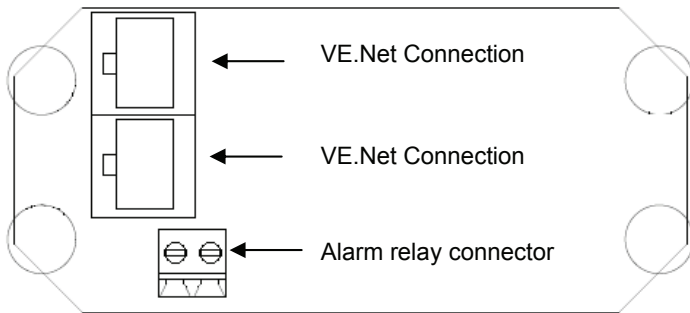

Figure 1. VE.Net Panel Connections
3. If required connect the alarm relay. Refer to figure 1 for the locations of the connectors.